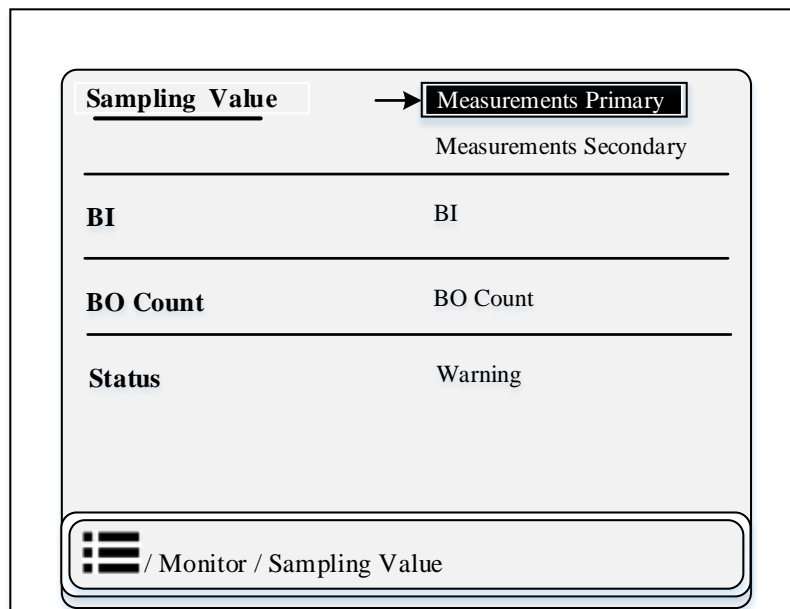

Figure 7.3.7 Overview Display of Monitoring Information Sub-functions
This section is divided into four sub-parts and describes the information of real time monitoring data of BP-2C busbar protection relay. This section only provides the sample, BI data, BO Count, Status information. In this section, user can easily access the real-time monitoring data view of relay through arrow keys. The overview display of monitoring information is shown in below figure 7.3.7.
This section is divided into one sub-parts and describe the information of binary input (BI) of this IED seen in the above figure 7.3.7. This section only display all the binary input data. User can access this function through the following path: "Monitor > BI".